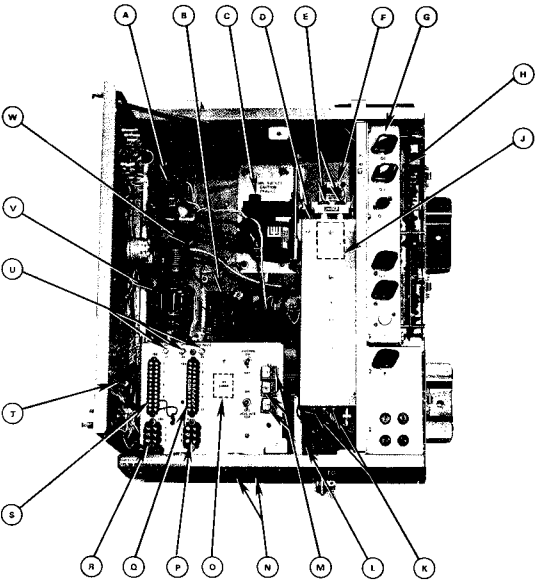

Figure 5-1 Receiver Transmitter RT-1240
Paragraphs 5.10.1 through 5.10.3 and their related subparagraphs provide corrective maintenance information for Receiver Transmitter RT-1240 (20 KW X-band MTR). The information includes troubleshooting instructions (5.10.1), removal and replacement procedures (5.10.2) and alignment procedures (5.10.3). The locations of assemblies and major components within Receiver Transmitter RT-1240 are shown in Figure 5-1. Schematic diagrams, parts list tables and assembly drawings applicable to Receiver Transmitter RT-1240 are contained in Section 6.2 of Chapter 6.
5.10.2.1 Modulator Tube V1. - See Figure 5-1; refer to assembly drawings in Chapter 6, Section 6.2 as necessary.
5.10.2.2 Magnetron Oscillator V2. - See Figure 5-1; refer to assembly drawings in Chapter 6, Section 6.2 as necessary.
5.10.2.3 T/R Limiter V3. - See Figure 5-1; refer to assembly drawings in Chapter 6, Section 6.2 as necessary.
5.10.2.4 Local Oscillator Assembly X2. - See Figure 5-1; refer to assembly drawings in Chapter 6, Section 6.2 as necessary.
5.10.2.5 Mixer Diodes CR5/CR6. - See Figure 5-1; refer to assembly drawings in Chapter 6, Section 6.2 as necessary.
5.10.2.6 Relay K11. - See Figure 5-1; refer to assembly drawing in Chapter 6, Section 6.2 as necessary.
5.10.2.7 IF Amplifier and Mixer Assembly A1600. See Figure 5-1; refer to assembly drawings in Chapter 6, Section 6.2 as necessary.
5.10.2.8 Power Module Assembly A1200. - See Figure 5-1; refer to assembly drawing in Chapter 6, Section 6.2 as necessary.